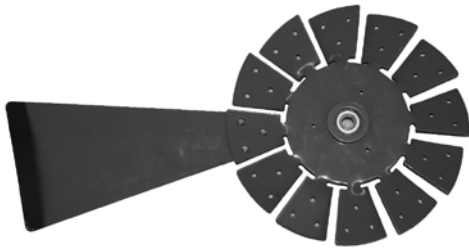

Figure 2
Attach the Fan Blades (H) to the Center Wheel (D) with the Fan Blade Bolts (F) and Self-Locking Nuts (G). Each Fan Blade (H) will use three bolts and nuts. The side of the Fan Blades (H) with the black edge should face to the front, and the Fan Blade (H) should be attached behind the blade on the Center Wheel (P). (Figure 2)